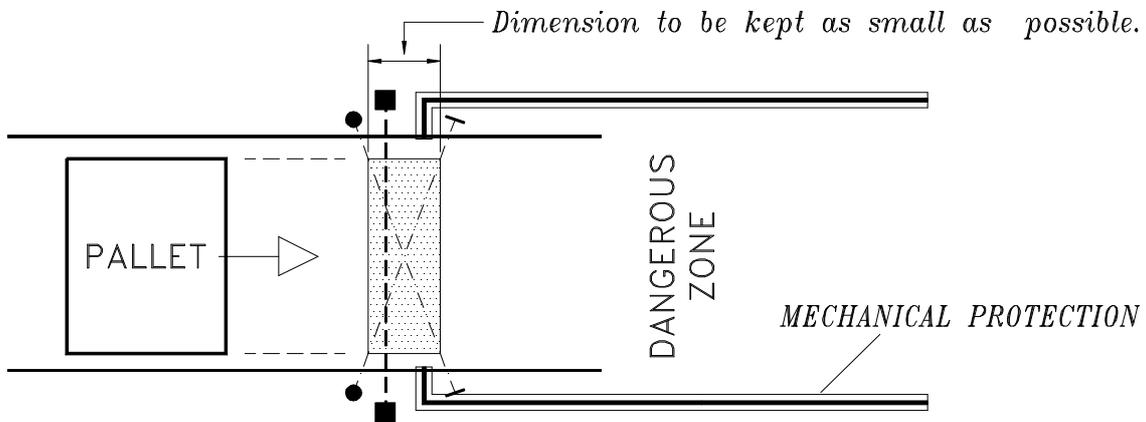

Figure 9
- the area delimited by the points of interception and freeing of the beams of sensors 1 and 2 by the pallet must be as small as possible (or be suitably protected) so as to avoid accidental passing through the light barrier with muting activated (fig. 9).